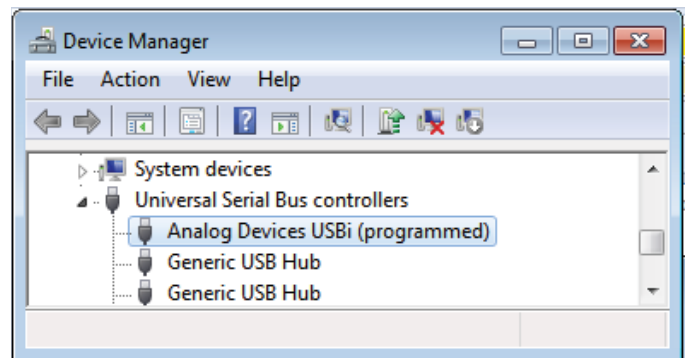

Figure 8. **Confirming Driver Installation Using the Device Manager**
- In the Windows **Device Manager**, under the **Universal Serial Bus controllers** section,(see Figure 8), check that **Analog Devices USBi (programmed)** is displayed.